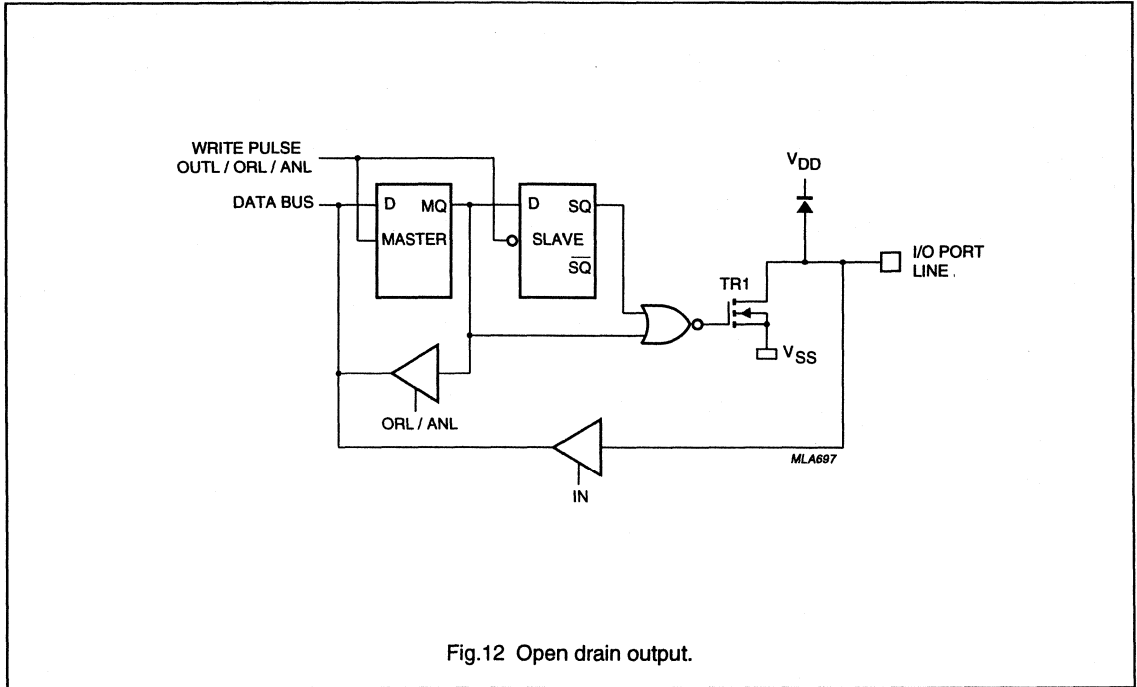

Fig.12 Open drain output.
- Option 2 Open Drain; quasi-bidirectional I/O with only an n-channel open drain output. Application as an output requires connection of an external pull-up resistor (see Fig.12). If unused, an option 2 output should be tied to  $V_{SS}$ . This keeps the input path from floating, thereby avoiding undesirable current flow through input stages.